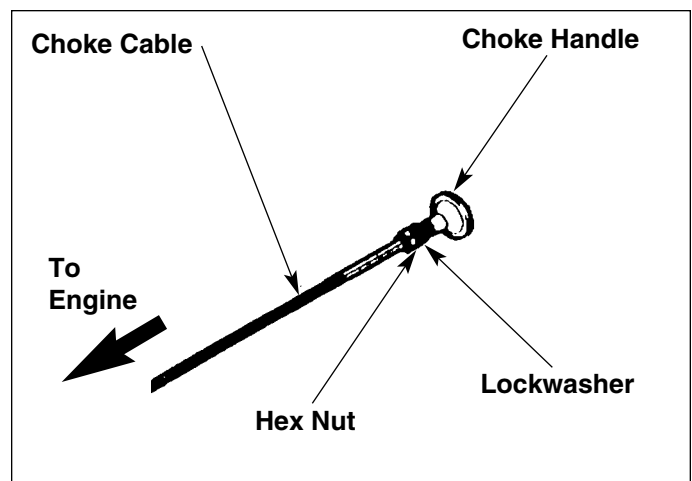

Figure B-32. Choke Cable Assembly
2. From inside the dashboard area, unscrew the hex nut that secures the choke cable assembly to the dash, and slide the choke cable and handle assembly out of the front of the dash. See Figure B-32.